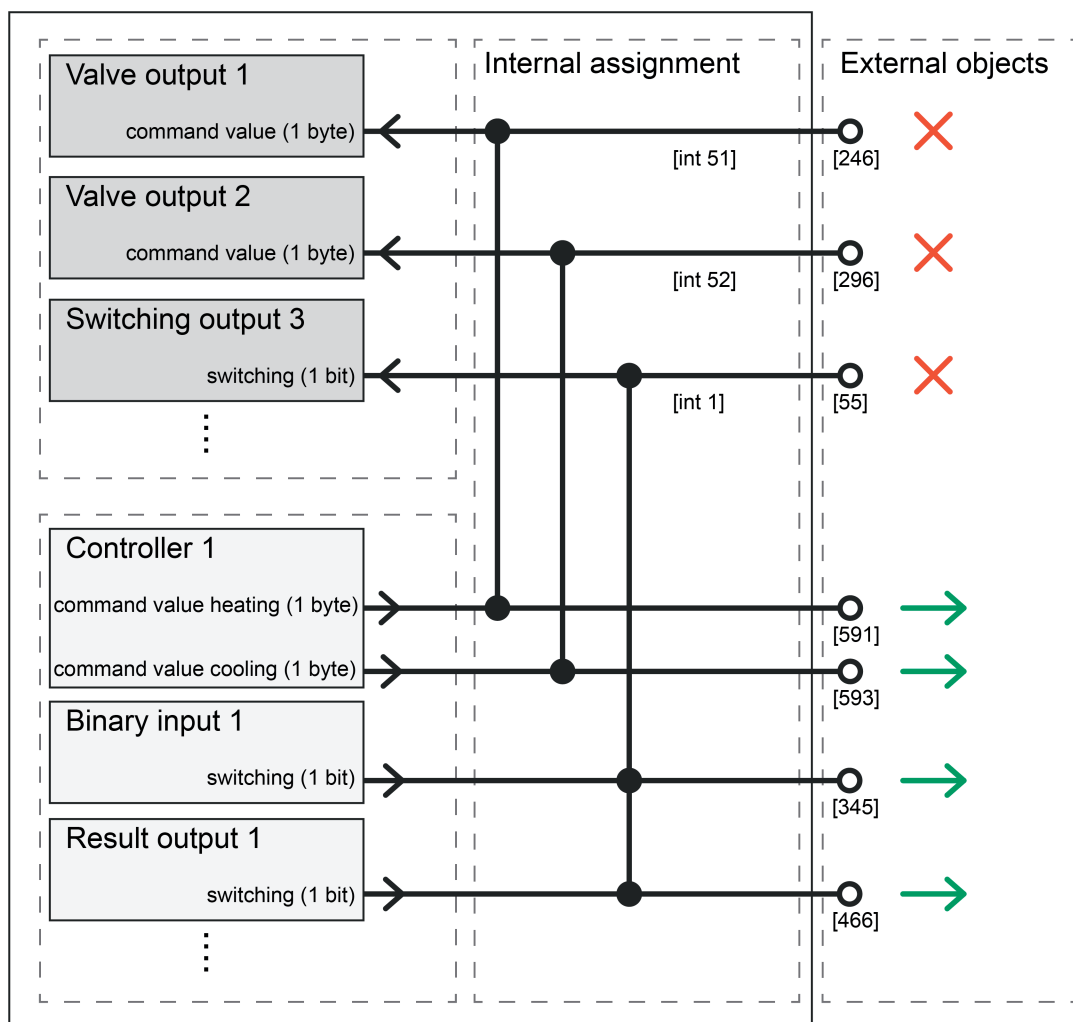

Figure 7: Project design example for internal group communication
- i** Just as when linking multiple communication objects with an external group address, with internal group communication, multiple transmitting functions (e.g. a binary input and the result output of a logic function) can be linked to a receiving function (e.g. a switching output) by using an internal connection (figure 7). In so doing, ensure that the most recently transmitted data value of the transmitting functions prevails and overwrites the previous values.